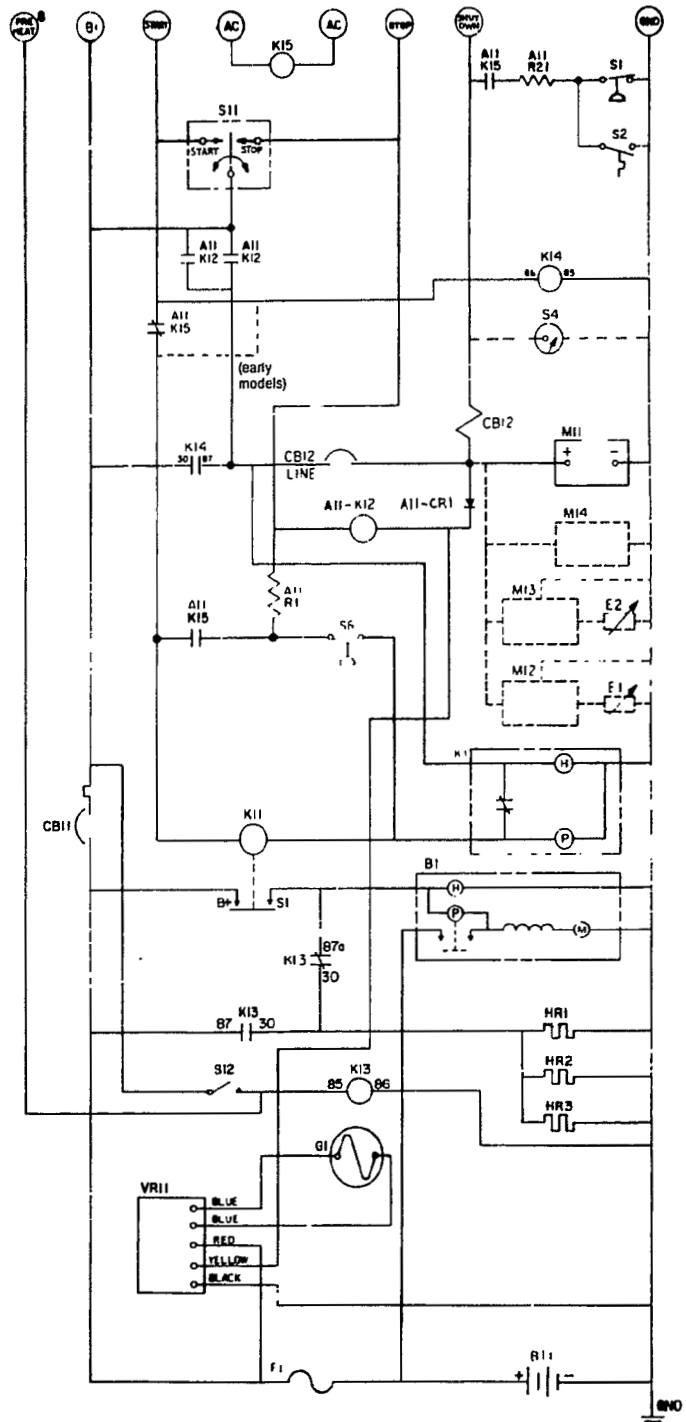

FIGURE 3-8. TYPICAL CONTROL SCHEMATIC
Figure 3-8 shows a typical schematic for the circuits described in the following Starting, Start-Disconnect and Stopping sequences. Relay contact references normally open (NO) and normally closed (NC) refer to position of contacts with the unit at rest (not energized).
**Emergency Shutdown:** Fault breaker CB12 opens to stop the engine anytime a fault sensor closes the circuit to ground. The fault sensors as shown in Figure 3-8 are: